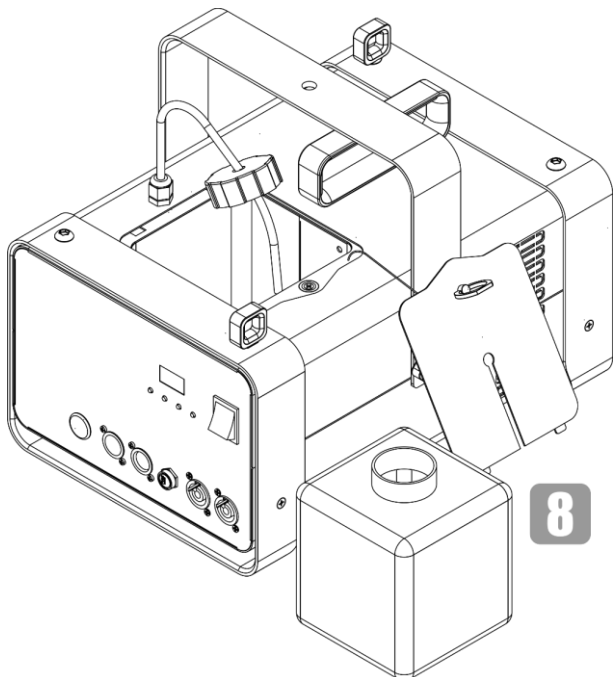

Fig. 15
- 08) Place the fluid tank on a flat surface near the device, as shown in Fig. 15.